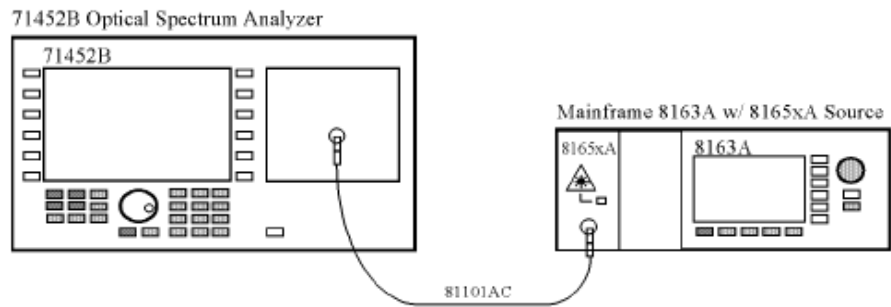

Figure 6 Measurement Setup for Center Wavelength and Spectral Bandwidth
- 2 Setup the equipment as shown in Figure 6.